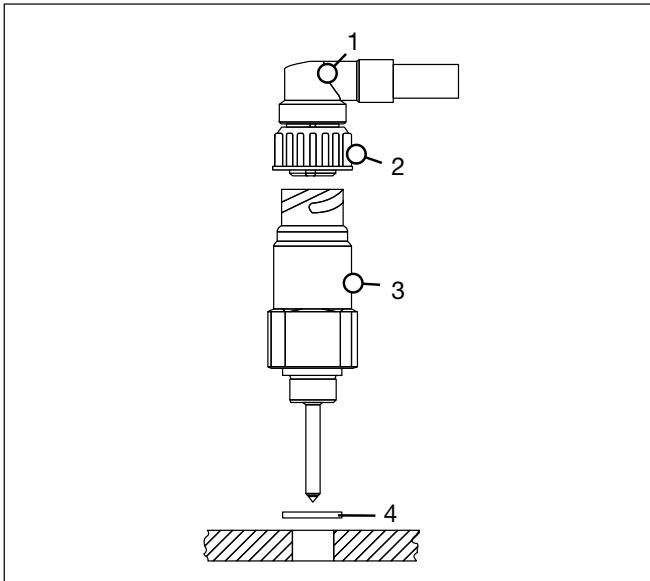
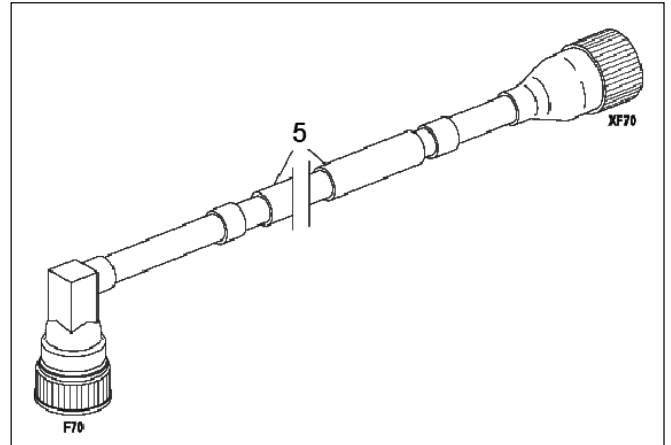

Figure 3 - WIF Sensor Installation
Figure 4 - WIF Sensor Harness
1. Screw the WIF sensor (See Figure 3) (3) with the sealing ring A18x22 (4) in the Industrial Pro WIF sensor port by hand.
2. Tighten the sensor (3) with torque wrench to max. 30 Nm (22 ft-lbs) tightening torque.
3. Connect the F70 plug (1) of the WIF sensor harness (5) to the WIF sensor (3) and tighten the bayonet lock (2) (Figure 3).
4. Route the WIF sensor harness (5) from the Industrial Pro to the XF70 connector on the engine. Securely route and support the the WIF sensor harness in the equipment.
5. Connect the XF70 plug of the WIF sensor harness (Figure 4) (5) to the XF70 connector on the engine and tighten the bayonet lock (2) (Figure 3).